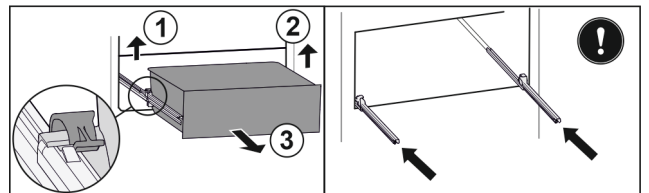

Fig. 166
- ▶ Lift left clamp and simultaneously pull drawer forwards on the left. Fig. 166 (1)
- ▶ Lift right clamp and simultaneously pull drawer forwards on the right. Fig. 166 (2)
- ▶ Remove drawer to the front. Fig. 166 (3)